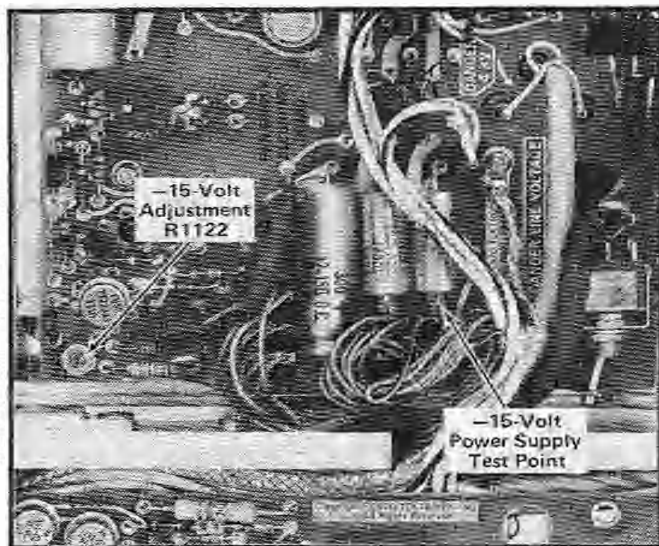

Fig. 5-4. Location of -15-Volt Power Supply Test Point.
a. Connect the Precision DC Voltmeter between the -15-volt power supply test point (negative lead of C1107 on Power Supply Secondary circuit board; see Fig. 5-4) and ground.
c. ADJUST— -15 Volts adjustment R1122 (see Fig. 5-4) for a meter reading of -15 volts, ± 0.037 volt.